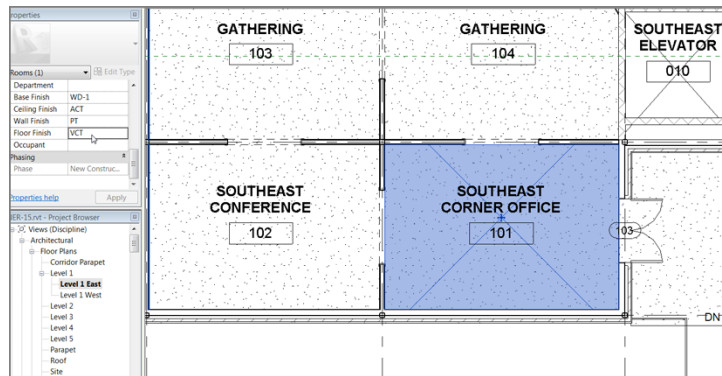

FIGURE 15.8: Adding values to the identity data
3. Pick the room, as shown in Figure 15.8.
8. Add VCT to Floor Finish (see Figure 15.8).